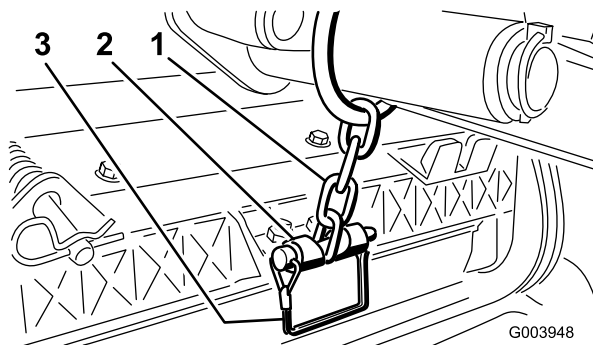

Figure 12
12. Secure the lift arm chain to the chain bracket with the snapper pin (Figure 12). Use the number of chain links described in the cutting unit *Operator's Manual*.